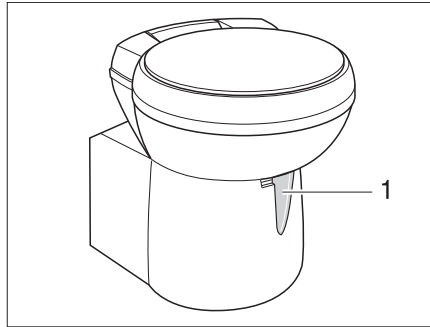
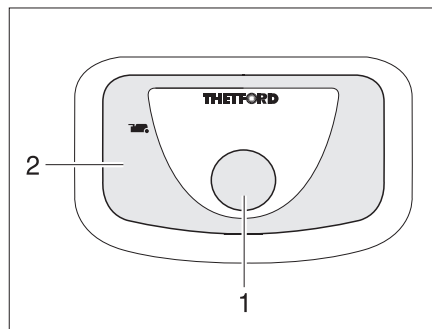

Fig. 380 Thetford toilet bowl, swivelling
Fig. 381 Flush button/indicator lamp Thetford toilet
- Before flushing open the sliding trap of the Thetford toilet. To do this, push the slide lever (Fig. 380,1 or Fig. 381,1) in an anticlockwise direction.
- For flushing, press the blue flush button (Fig. 380,1 or Fig. 381,1).
The indicator lamp (Fig. 380,2 or Fig. 381,2) goes on whenever the Thetford cassette has to be emptied.
- Push the slide lever (Fig. 380,1 or Fig. 381,1) in a clockwise direction. The sliding trap is closed. To empty, the sliding trap in the Thetford toilet **must** be closed.